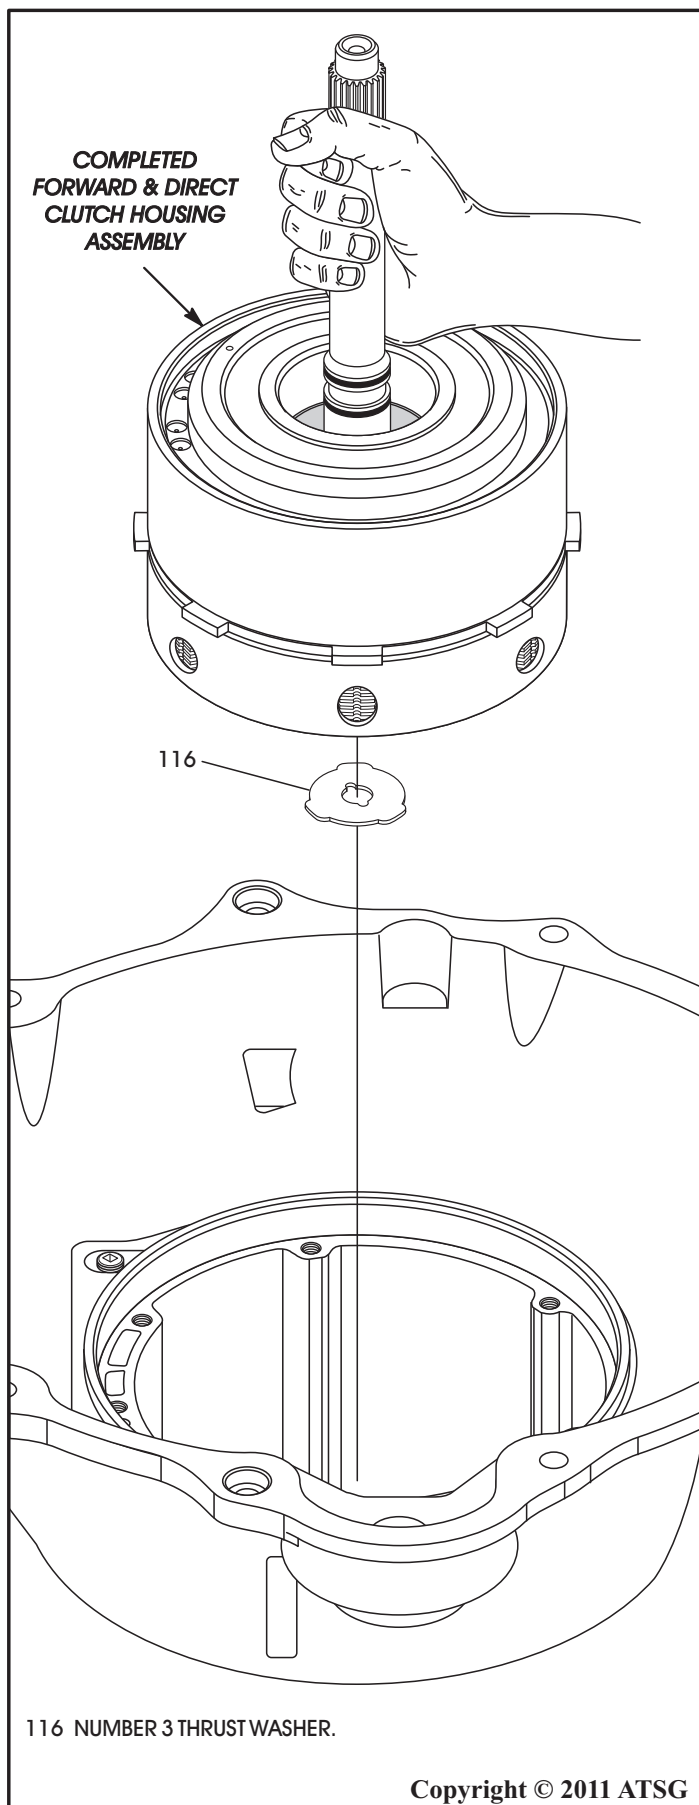

Figure 221
9. Ensure that number 3 thrust washer is still stuck to back side of housing, and install completed forward and direct clutch housings as assembly, as shown in Figure 221.